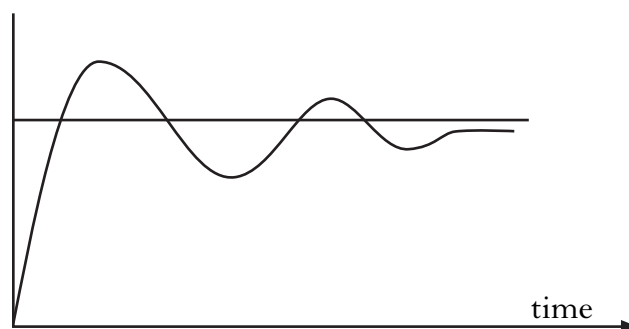

Figure Q8(a)
- (5)
8. A mechatronic system uses a Proportional control strategy. Figure Q8(a) illustrates a system response to a step change.
- (a) On **Worksheet Q8**, complete Figure Q8(a) by entering, in the spaces provided, the appropriate label from the list below: